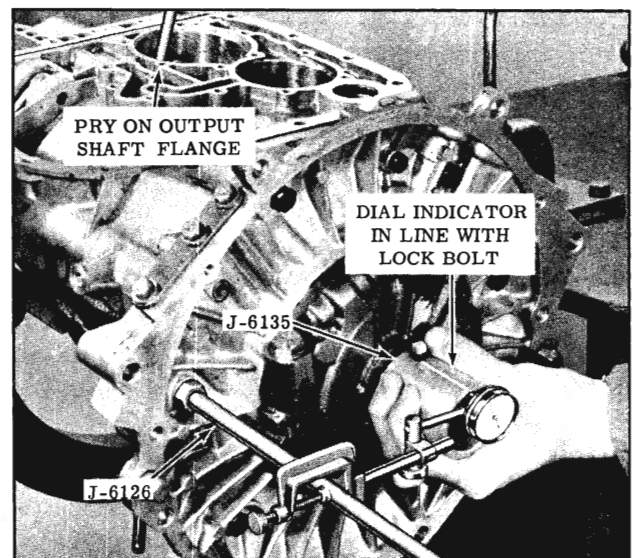

Fig. 3-27 Check End Play
2. Install Tool J-6126 into transmission case. (Fig. 3-27)
6. At the same time move Tool J-6135 and record end play. (Fig. 3-27)